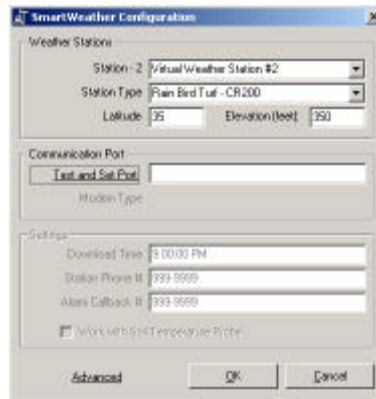

Figure 4 Weather Station Configuration
8. Select weather station from drop down menu (see Figure 4)